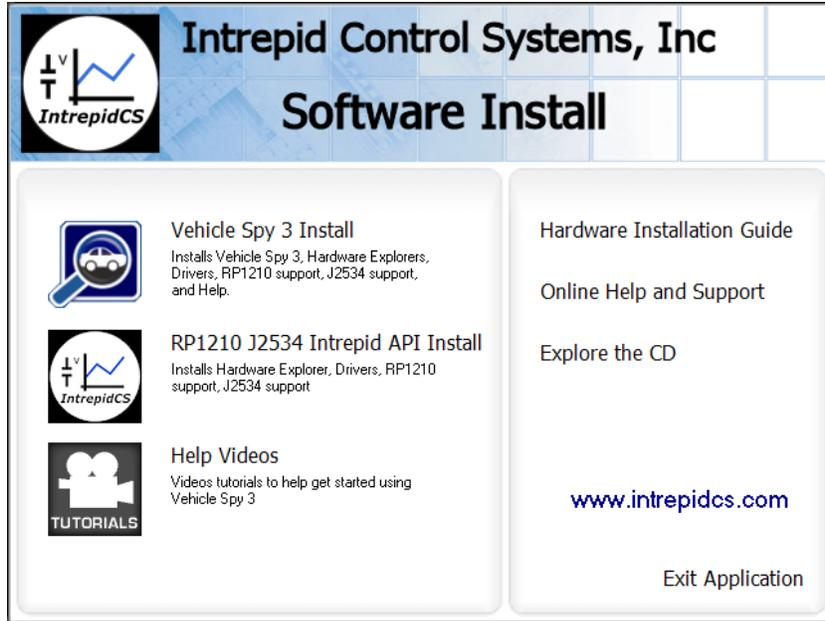

Figure 19: Software Install Dialog Box.
1. **Load the Software and Documentation Disc or Flash Drive:** Insert the disc that came with your RAD-Galaxy into your computer. A few seconds later, the ICS software installation menu should appear on your computer screen, as shown in Figure 19.